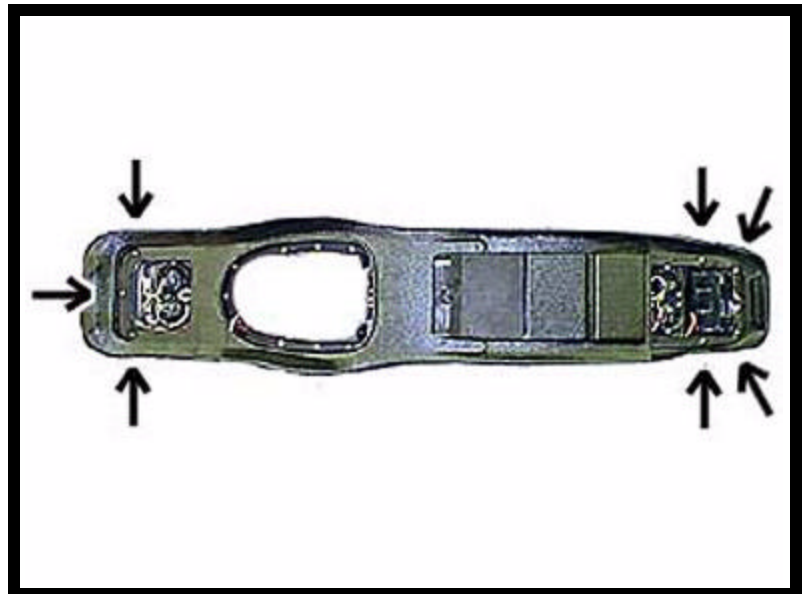

FIGURE 10
10. Carefully turn console over and secure O.E.M. console using original screws. Start all screws before tightening. **Caution: Do not overtighten screws.** See Figure 10.
11. Install jumper wire harness (item 8 pg 2) to extend the red, violet, orange, and black wires previously cut on O.E.M. harness. Connect the white wires from video system light to orange O.E.M. wire. Connect the black wires from video system light to black O.E.M. wire. Firmly crimp wires then slide shrink sleeve over butt connector and apply heat.